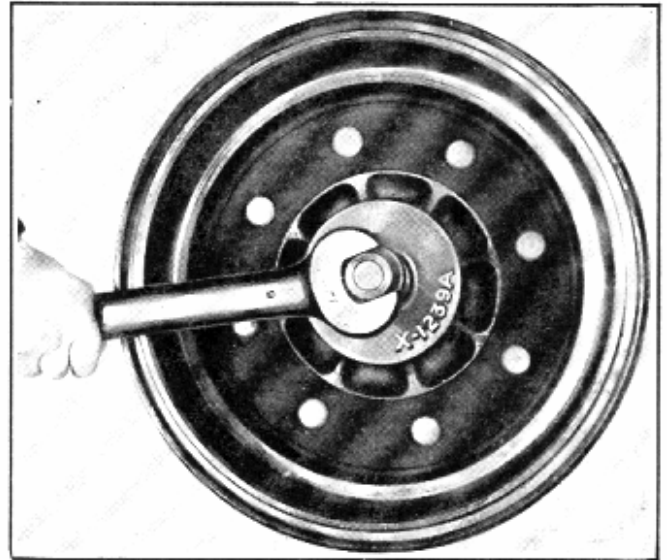

Fig. 28—Using Tool X-1239-A to Remove the Inner Bearing, Grease Retainer and Oil Slinger
- ried out with a screw driver, then by installing special tool X1239-A as shown in Fig. 28, the bearing and retainer can be removed.